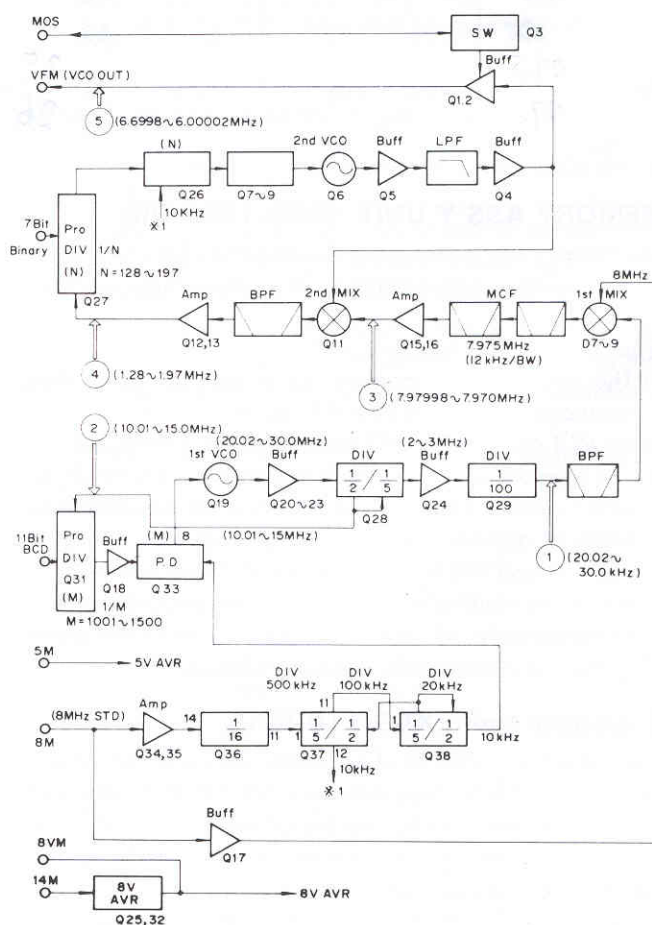

Fig. 15 VCO unit block diagram
The block diagram of the VCO unit is shown in Fig.15, and a memory frequency chart is given in Table 3.
2. ① ~ ⑤ mark shows each frequency of block diagram on the VCO unit Fig. 15.